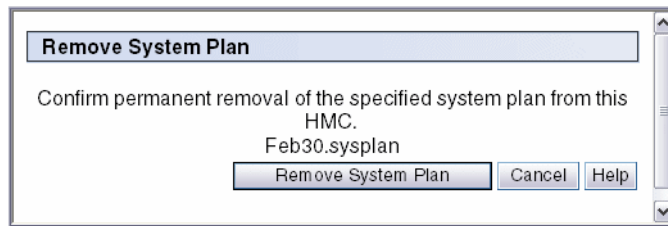

Figure 4-16 Confirm removal of system plan window
2. Click **Remove System Plan** either from the Tasks drop-down menu or the content Tasks link in the lower portion of the window. A conformation message displays asking if you are sure you want to delete the file (Figure 4-16).